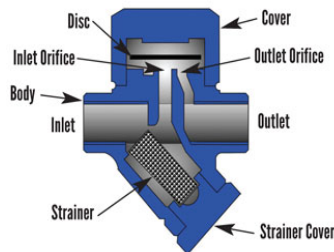

Figure 3 Thermodynamic Trap
- Thermodynamics Traps:** These traps respond to velocity change in the flow of compressible and incompressible fluids, which means that the valve will open even if there is only steam present, possibly causing quicker wear, even locked up trap condition. See Figure 3.